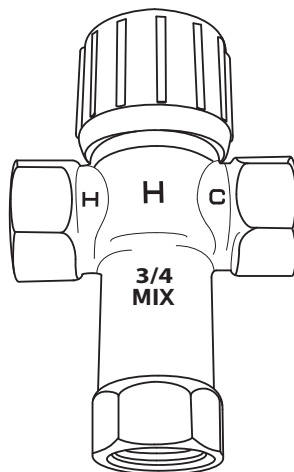

Figure 7 - Thermostatic Mixing Valves installed at each point-of-use can help prevent scalds.
- Thermostatic Mixing Valves at each point-of-use (Figure 7 on page 8)
Install Thermostatic Mixing Valves (Figure 7) to regulate the temperature of the water supplied to each point-of-use (for example, kitchen sink, bathroom sink, bath, shower). Consult the valve manufacturer's instructions or a qualified person.